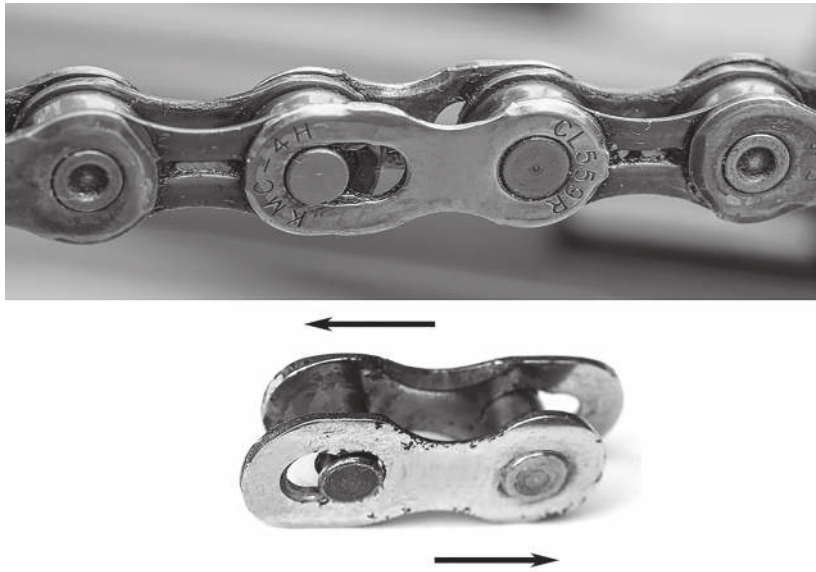

Fig. 10.2
- (iii) Fig. 10.2 shows a joining link which tightens under tension and is often used to join the ends of a chain together.